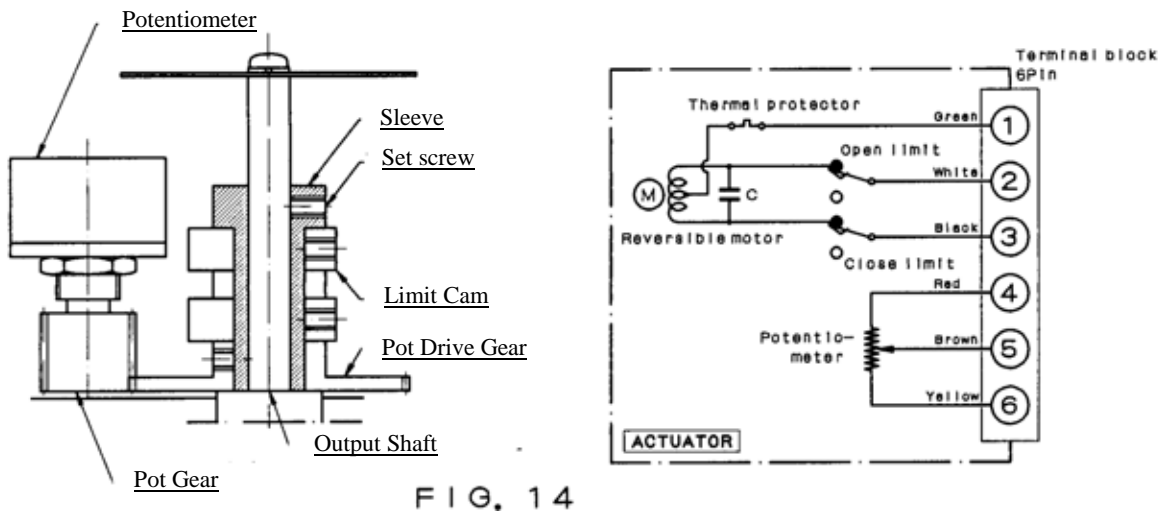

FIG. 14
* Refer to Fig.14 for wiring diagram.